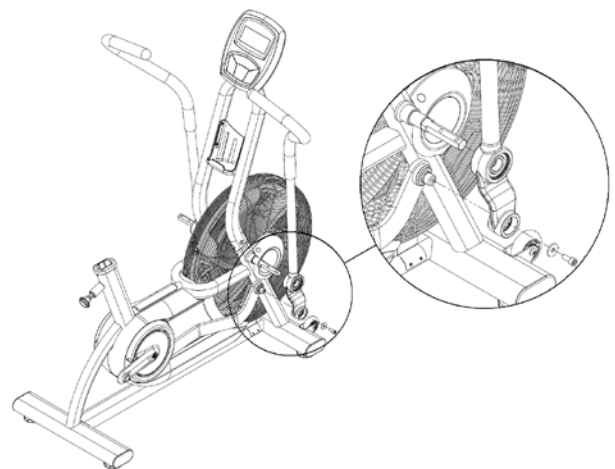

Fig. 9
8. Mount the console (Fig. 9) to the frame using the four pre-installed Phillips head screws thru each of the available holes on the neck plate.